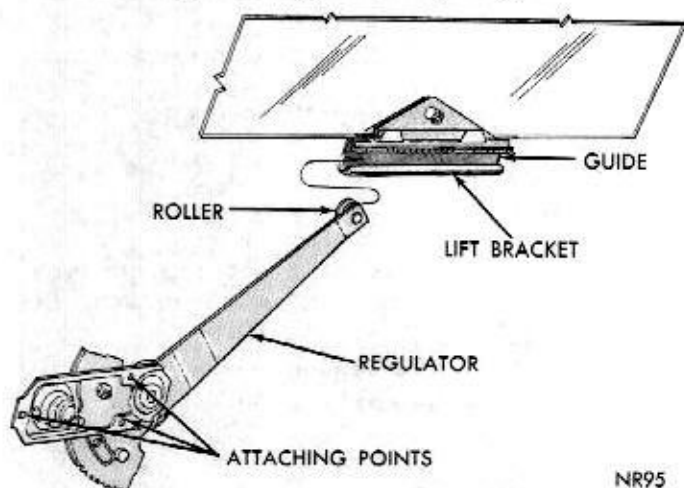

Fig. 37—Regulator Assembly
- (2) Move channel forward and slide glass out of channels.
- (3) Remove regulator arm from lift bracket (Fig. 37).
- (4) Remove glass from door.
- (5) Push plug out of lift bracket rivet.
- (6) Pinch ends of rivet together and remove glass.
The regulator assemblies are attached by screw and washer assemblies (Fig. 37). When removing, the door
The regulators are attached to the door inner panels with screw and washer assemblies (Fig. 37). On electrically operated regulators, the motor is also attached at the bottom end to the door panel.